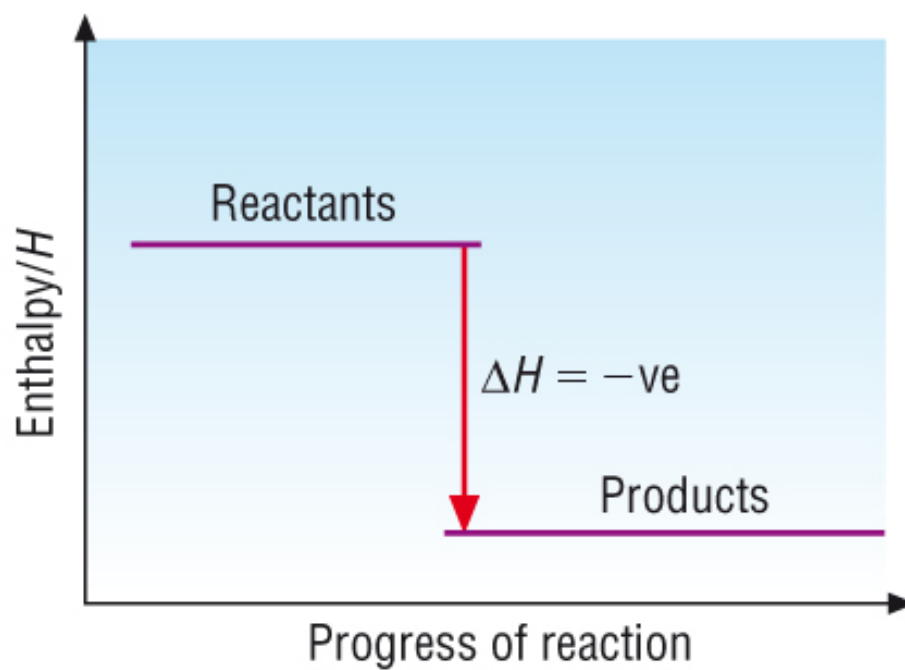

Figure 2.8: Exothermic Enthalpy Diagram
- Figure 2.8 - Exothermic Enthalpy Diagram - <http://awkwardrevision.weebly.com/enthalpy.html> - Accessed 16:21, 11/02/2015.